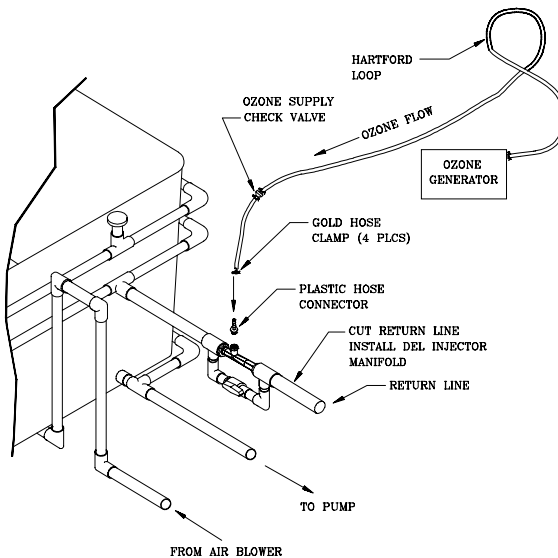

Figure 5: DEL Injector Manifold Installation Diagram
**LOCATION "D" (see Figure 5):** This connection procedure is used on spas which have a two-speed pump and where the venturi air line is inaccessible or will not provide sufficient suction to operate the ozone generator properly. A DEL RIGID INJECTOR MANIFOLD (DEL Part Number IU-201) is required and can be ordered from your local dealer. This connection is also used if an air blower is provided to "supercharge" the jets.
**LOCATION "E" (see Figure 5):** Use this location on spas with a single-speed pump. A DEL ADJUSTABLE INJECTOR MANIFOLD (DEL Part Number IU-206) is required and can be ordered from your local dealer.
For the location “D” connection, a DEL RIGID INJECTOR MANIFOLD (DEL Part Number IU-201) is required - contact your local dealer (See Figure 5).
For the location “E” connection, a DEL ADJUSTABLE INJECTOR MANIFOLD (DEL Part Number IU-206) is required. The injector manifold must be installed on the spa return line after all the spa equipment (See Figure 5). Refer to the instructions for installing a DEL RIGID INJECTOR MANIFOLD, Installation for Location “D”, above.